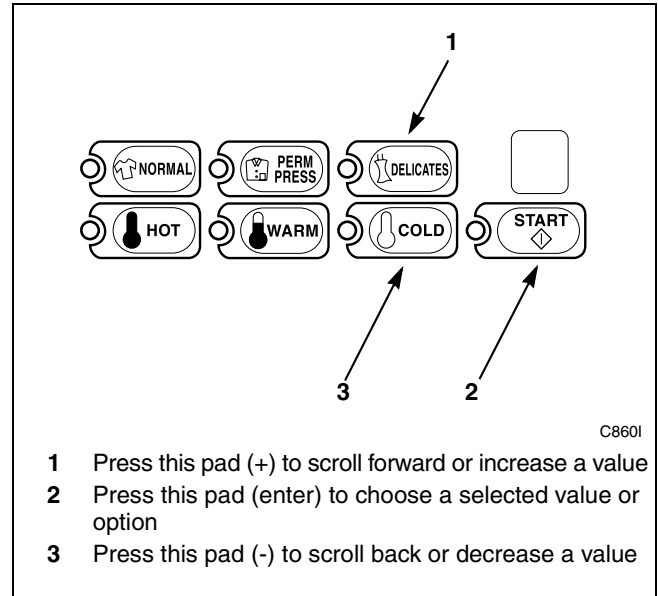

Figure 185
5. Press the DELICATES (+) or the COLD (-) keypad to increase or decrease the current number of minutes displayed in the VFD to the desired number of minutes. Refer to *Figure 185*.
**NOTE: The Special Cycle Extra Extra-Rinse Time can be set from zero (0) to 15 minutes.**